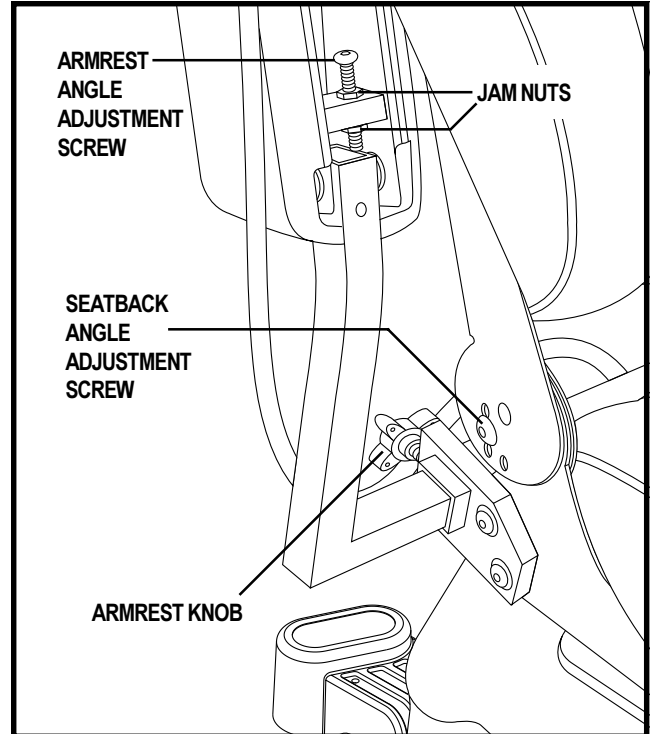

Figure 18. Seatback and Armrest Adjustments
If your power chair is equipped with an angle adjustable seatback, you can adjust it to four (4) different angles: 90°, 102°, 105°, or 107°. See figure 18.
1. Locate the two armrest knobs on each side of the armrest receiver bracket. See figure 18.
2. Loosen the jam nuts. See figure 18.
3. Loosen the armrest angle adjustment screw. See figure 18.